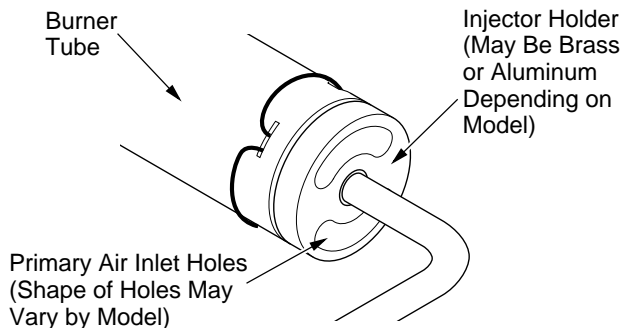

Figure 42 - Injector Holder On Outlet Burner Tube
2. Inspect burner, pilot, and primary air inlet holes on injector holder for dust and dirt (see Figures 42 and 43).